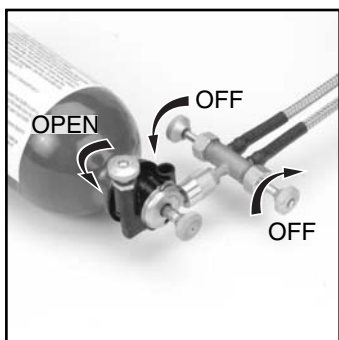

FIG. 25
- Make sure fuel bottle is lying level on its side with the **FUEL VALVE** up (Fig. 25).
- Make sure both **FUEL VALVES** to the burners are fully “OFF” and the **FUEL VALVE** on the fuel bottle is “OPEN” (Fig. 25).